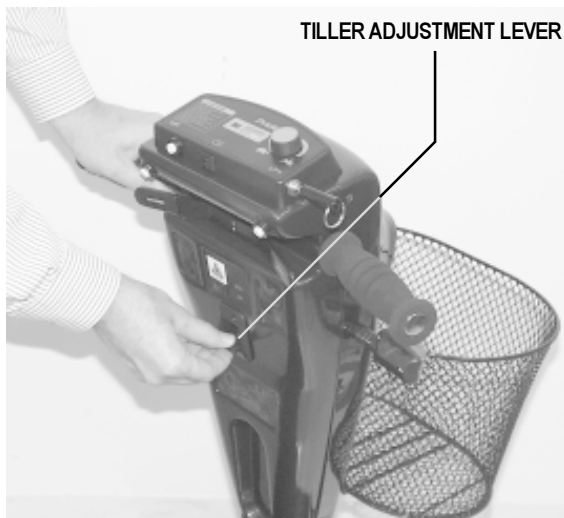

Figure 11. Tiller Adjustment
1. Pull up on the tiller adjustment lever. See figure 11.